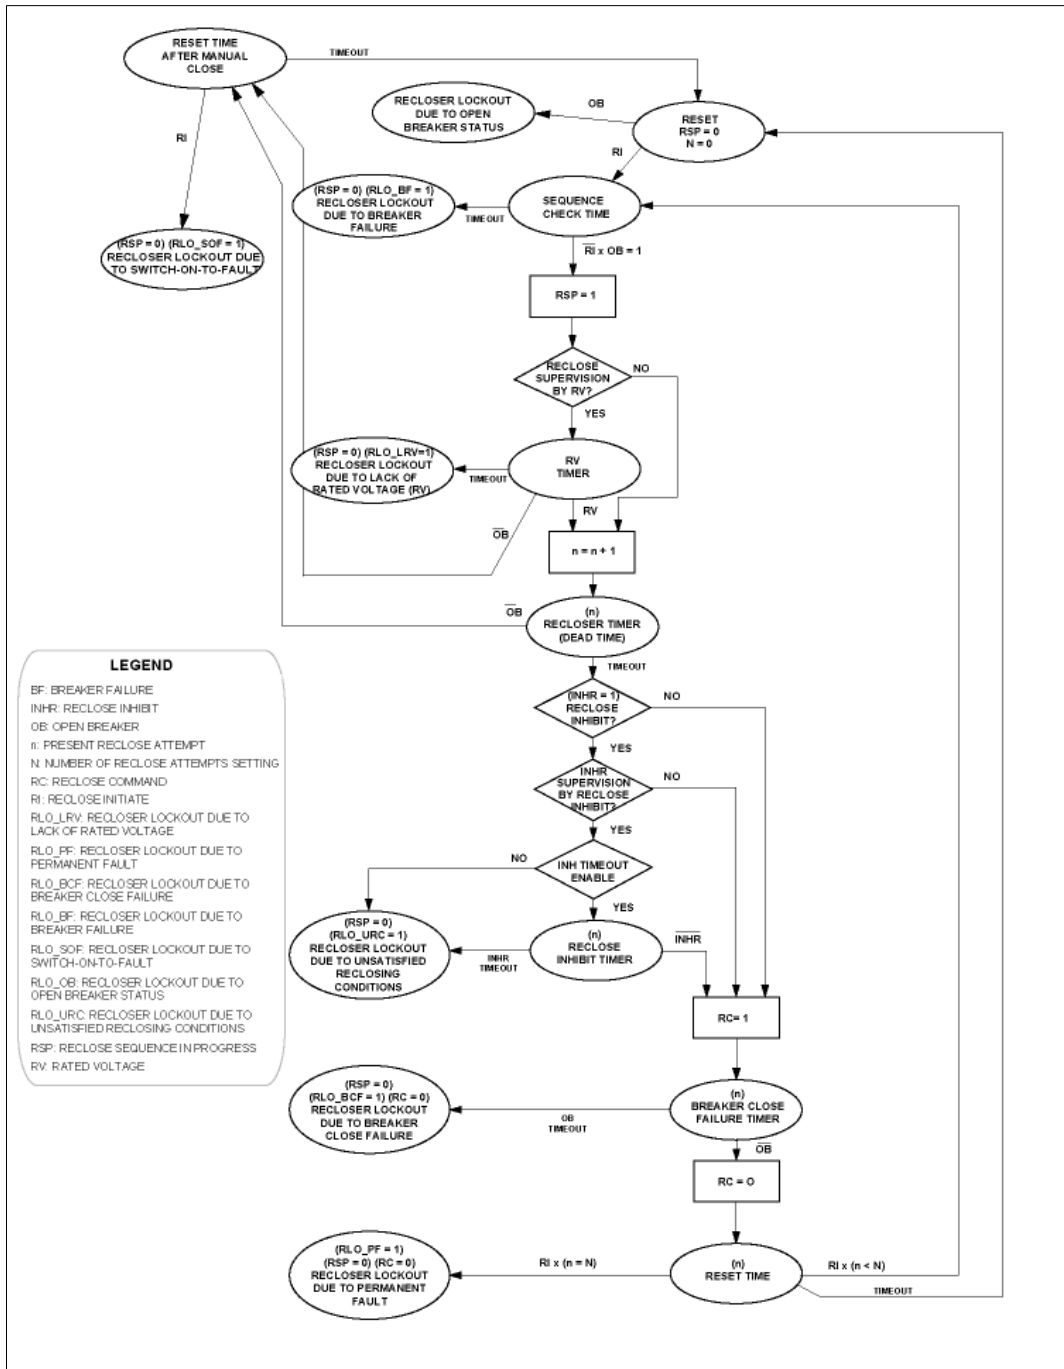

Figure 6.11: Recloser Flow Diagram (I).
Figure 6-11 and 6-12 are flow diagrams which describe the operation of the recloser. The Reclose Initiate (RI) signal shown in these diagrams is the logic sum of the following signals:
Up to four reclose attempts can be programmed in the reclose sequence. A sequence of operations takes place during each of these close attempts which is controlled by the recloser settings, external inputs, and inputs from the protection elements of the **CPI** terminal. Please refer to the block diagrams of Figures 6-11 and 6-12.